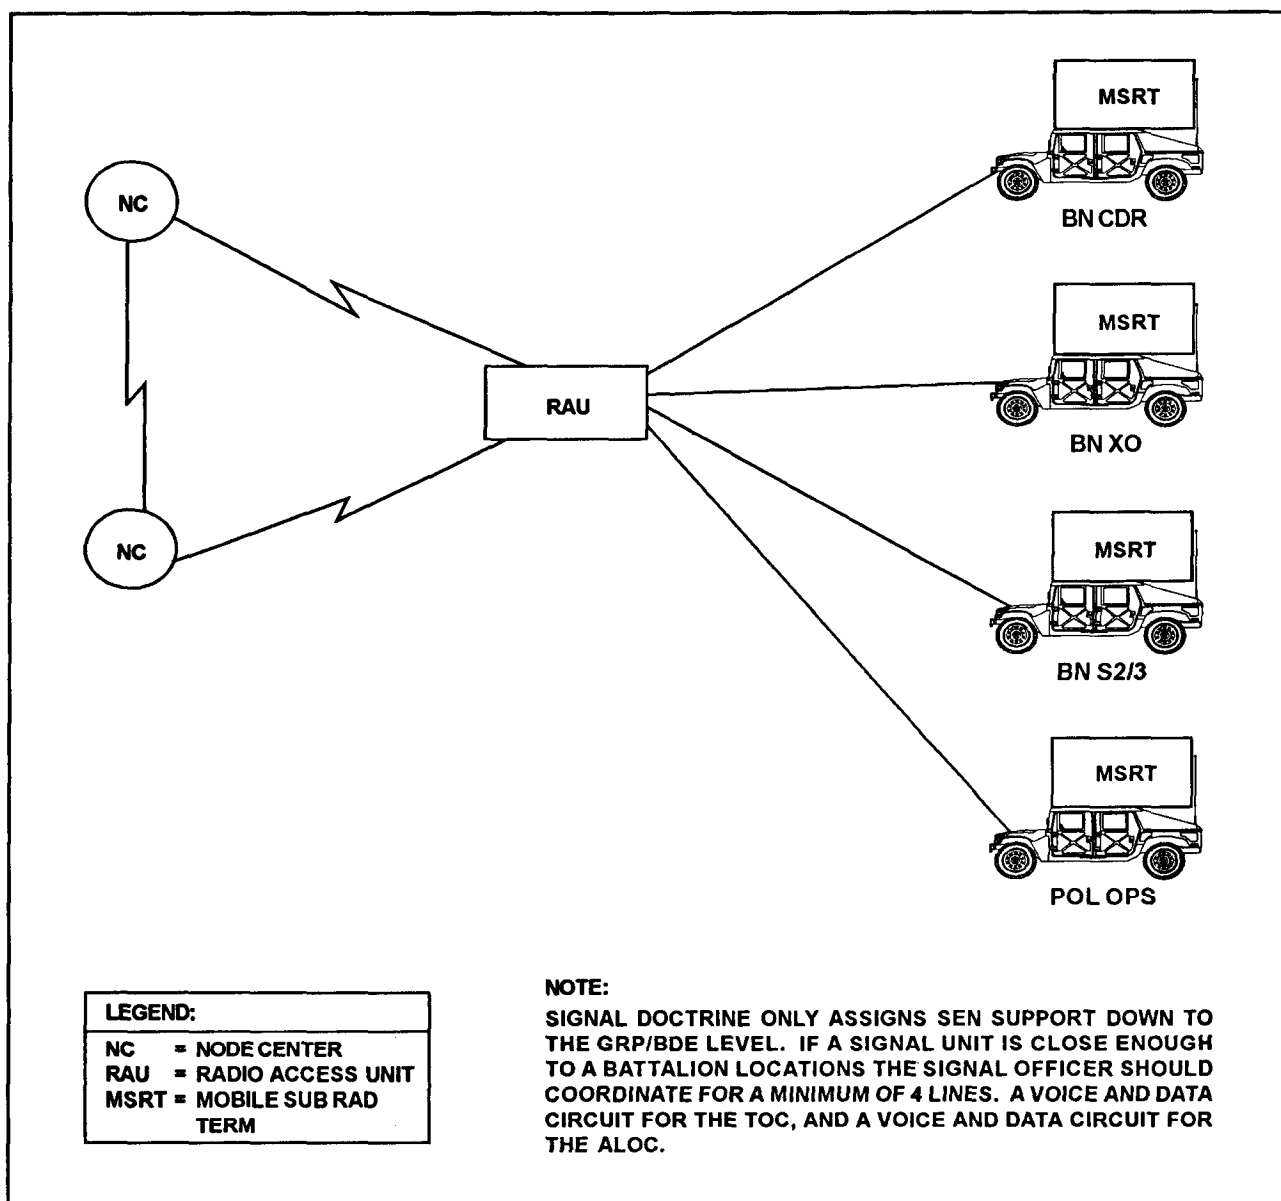

Figure 4-4. Petroleum battalion mobile subscriber interface
- Mobile subscriber interface equipment. The supporting signal unit provides connectivity to the battalion that allows it to interface with the theater digital or corps mobile subscriber network. Users access MSE network via fixed subscriber terminals or mobile subscriber terminals. Figure 4-4, page 4-12, depicts these access points. The fixed subscriber terminals are hard wired to a SEN through a junction box, J-1077. The three fixed instruments are the DNVF, TA-1035; the DSVF, KY-68; and the communication terminal, AN/UGC-144. The MSRT is the AN/VRC-97. The MSRT, which consists of a very high frequency radio and a digital secure voice terminal (KY-68), in a vehicle-mounted assembly. It interfaces with the MSE system through a RAU. As long as the radio unit has line-of-sight contact with the RAU, it has connection in the MSE area system. The operational planning range is 15 kilometers from any RAU.
- Message center. Message center operations orient on the AN/UGC-144 computer terminal that enables access into the DMS, DDN, and MSE network. Both the S4 and POL Ops sections are authorized these terminals as shown in figure 4-4. These terminals are user-owned and -operated message terminals. Through menu-driven screens and passwords, it allows composition, transmission, and formal record traffic receipt. Each terminal has a KY-68 DSVF that provides autodial encryption capability. Section personnel, with the assistance of the communication section, process incoming and outgoing messages according to assigned priorities. They will observe the following precedence, time frames and procedures per FM 24-17 and AR 25-11.
- Radio communications net. There are nine SINCGARS radios dispersed throughout the company, see figure 4-4. Section personnel establish the radio communications net for these radios. When performing their duties, they should —